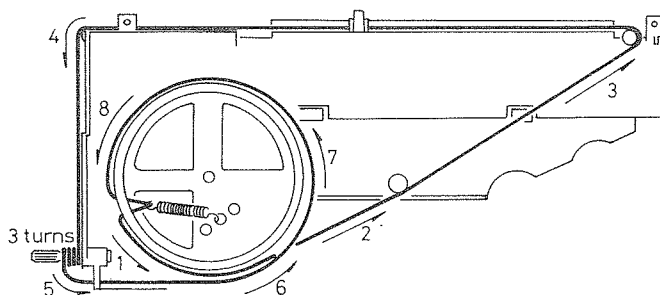

Fig. 35
4. Fit the cord in numerical order as shown in Fig. 35.